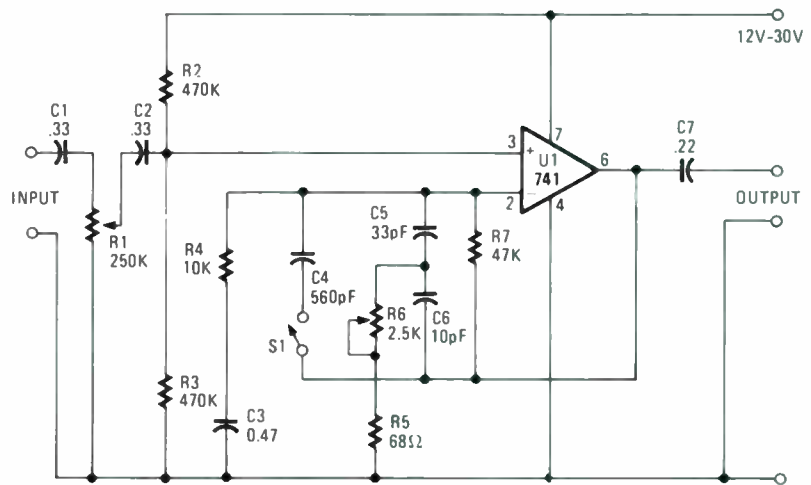

FIG. 14
J.C., lots of big names had to start small. The schematic diagram (Fig. 14) we provide should be easy to put together. Here's how it works: The signal voltage is fed through the volume voltage divider and is applied to the non-inverting input of U1. A frequency-dependent r/c network permits feedback from the output to the inverted input of the IC. The potentiometer lets you control the "flavor."